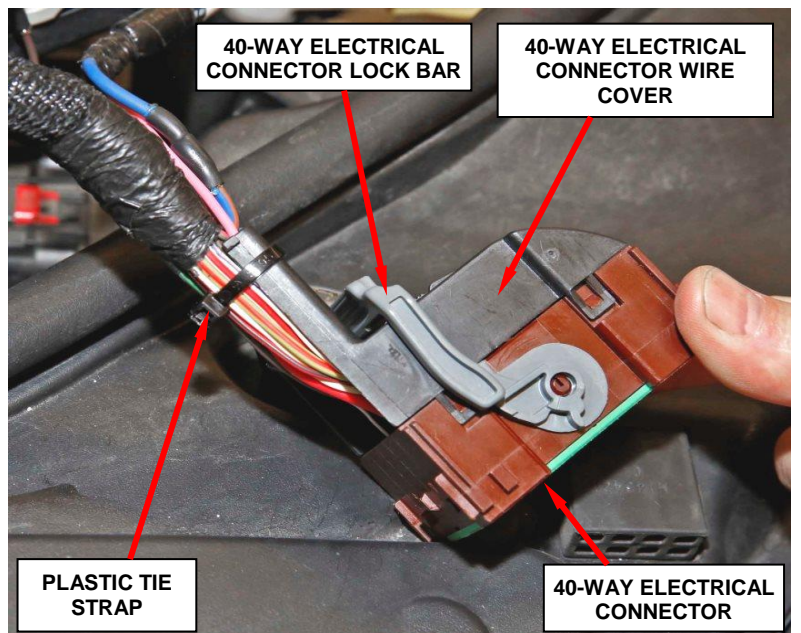

Figure 31 – Install Back Cover and Tie Strap
27. Install a plastic tie strap to hold the wire harness in place on the back side of the 40-way electrical connector (Figure 31).